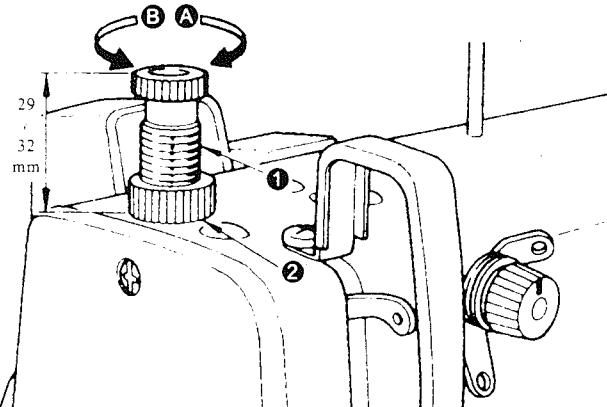

图14 Fig.14
10. 压脚压力的调节(图14)
10. PRESSER FOOT PRESSURE (Fig.14)